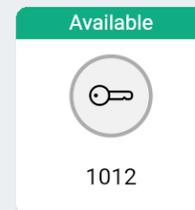

Fig. 148 – Collect now card
- 🔑 The top bar shows the status of the asset. Since you have the asset reserved, it should show **Available**, as shown in Fig. 148.